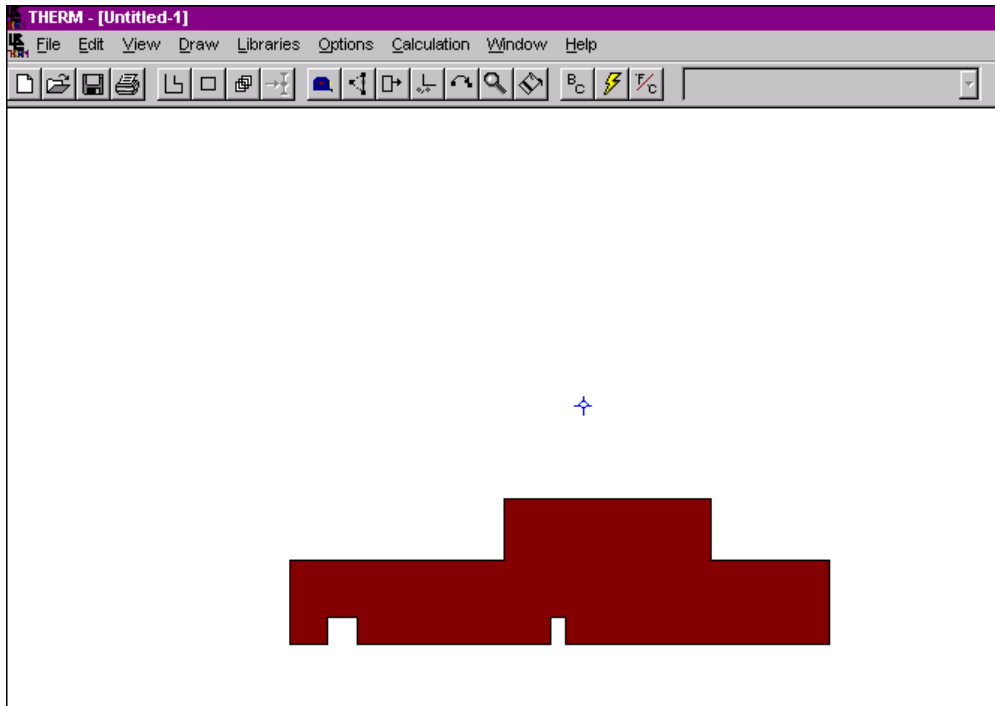

Figure 8-25. The completed polygon that represents the frame
- Your finished polygon should look like the picture in Figure 8-25.